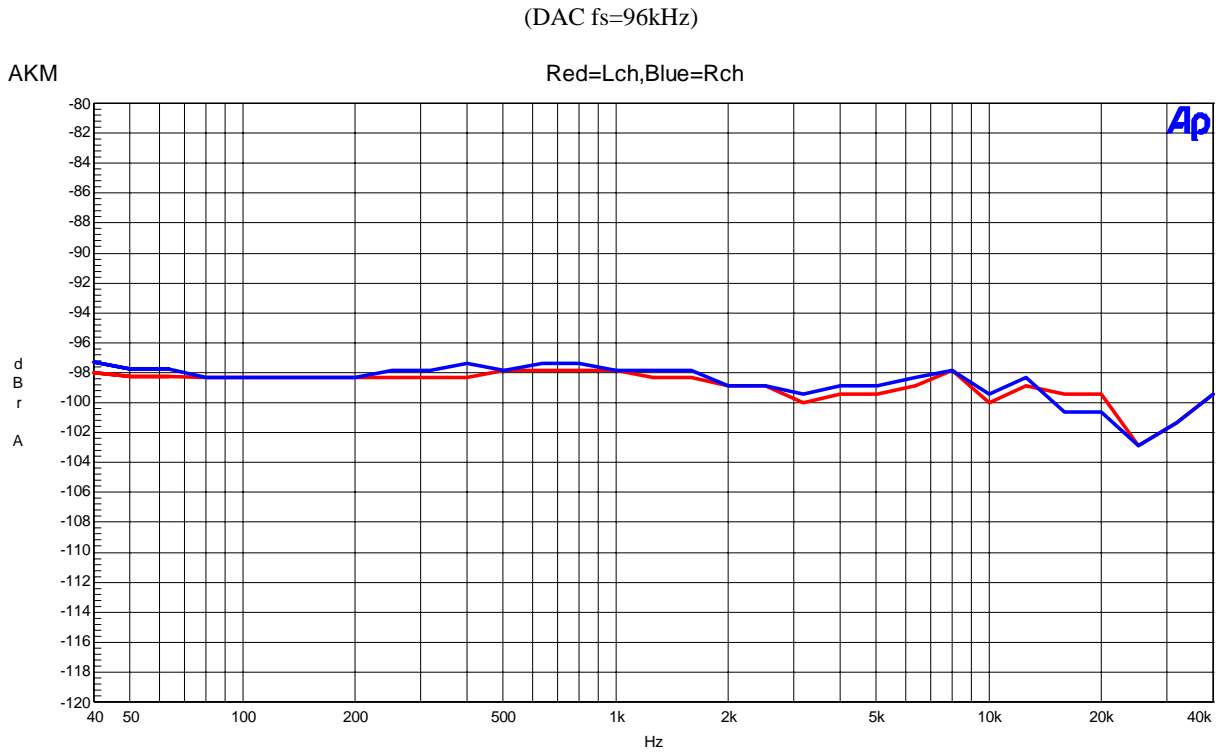

Figure 39. THD+N vs Input Frequency (Input Level=0dBFS)
- Figure 39. Frequency Response (Input Level=0dBFS)